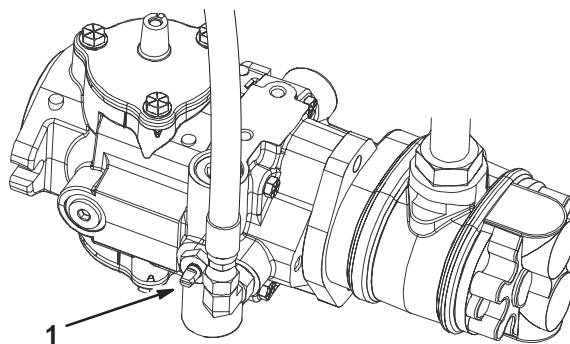

Figure 31
1. Locate the bypass valve on the pump and rotate it so that the slot is vertical (Fig. 31).
2. Before starting the engine, close the bypass valve by rotating it so that the slot is horizontal (Fig. 31). Do not start the engine when the valve is open.